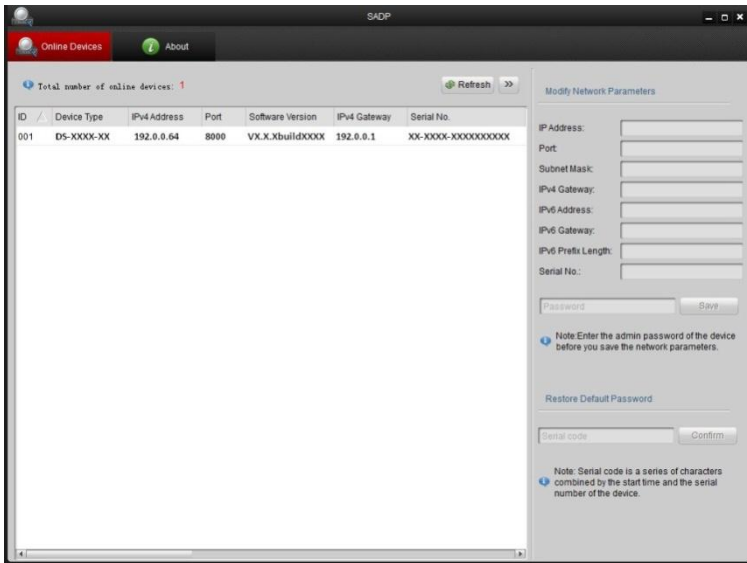

Figure 3-2 Searching Online Devices
- ☐ Use SADP, a software tool which can automatically detect network speed dome in the LAN and list the device information like IP address, subnet mask, port number, device serial number, device version, etc., shown in Figure 3-2.